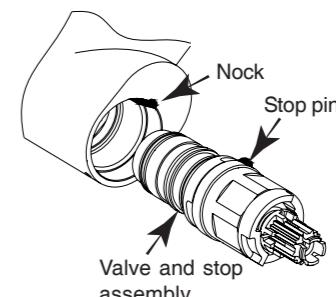

Fig. 8
- Install the assembly cartridge + stop in the body, adjusting the stop pin in the notch (fig. 8).